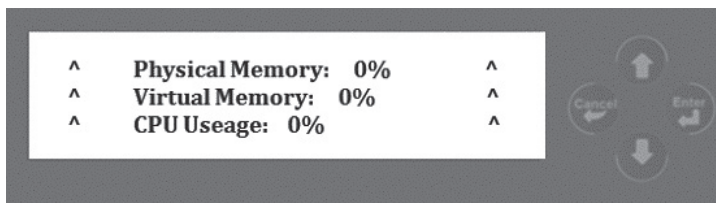

Figure 13
1. If there is no operation in the menu interface for 30s, it will enter UseRatio (figure 13) or String, SV_NUM scrolling display interface, press any key to return to the menu interface: